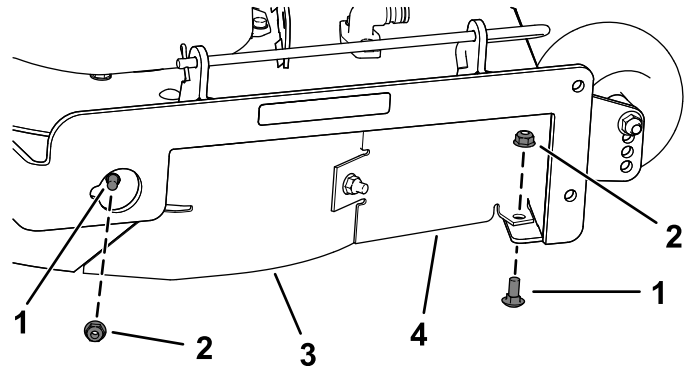

Figure 14
7. Remove the 2 carriage bolts (5/16 x 3/4 inch) and 2 locknuts (5/16 inch) securing the assembled right baffle and baffle guard to the mower deck (Figure 14).